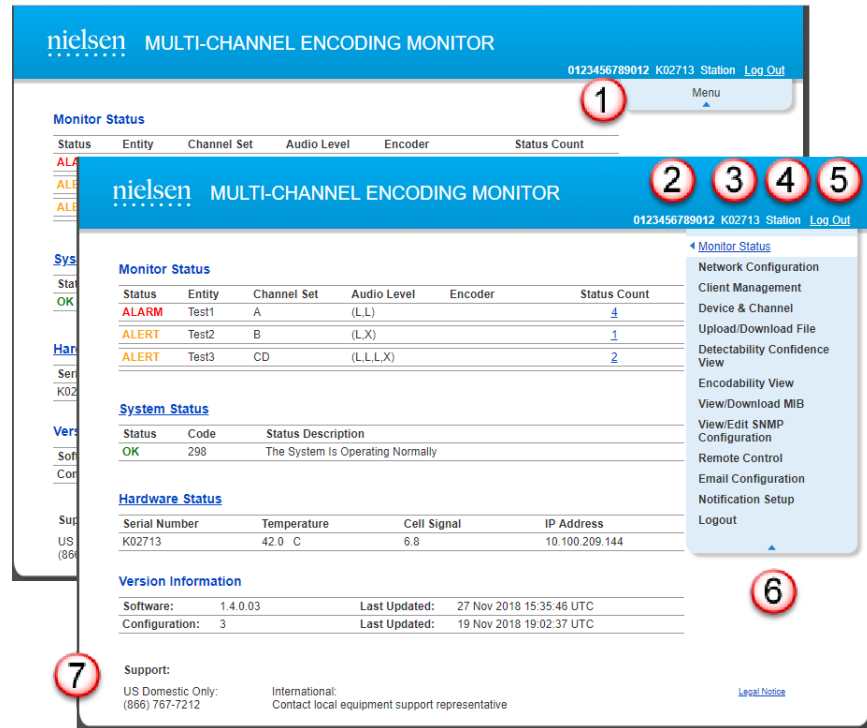
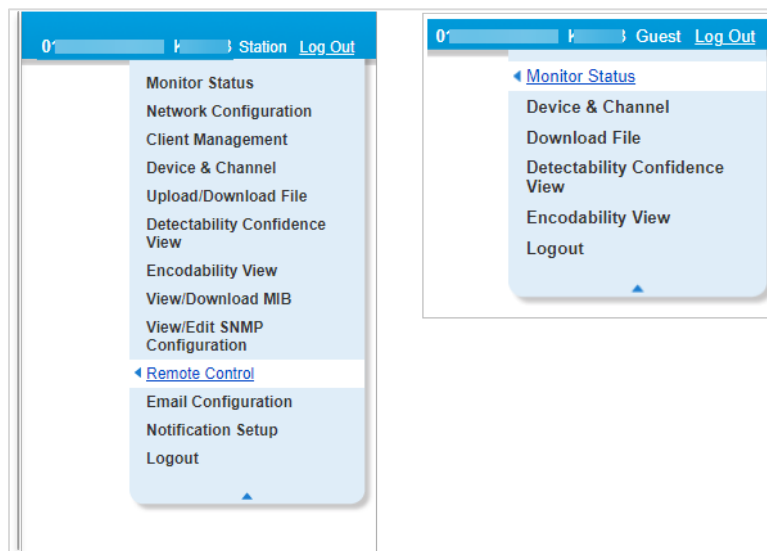

Figure 33: Elements Common to All Pages for Station Users
Figure 34: Menus for Station and Guest Users
All pages of the web interface (Figure 33) share certain characteristics to present a consistent look and feel to the user.
- Drop-down menu (Items 1 and 6, described below Figure 33)
The title bar and footer information are the same for all pages in the web interface. The menu of links (Item 1 in Figure 33) is used to navigate among pages. The contents of the menu are different for a Station user, who has read/write rights (Figure 34) from the rights for a Guest user, who has read-only rights. To expand a closed menu or close and open menu, click the blue arrow at the bottom of the menu.